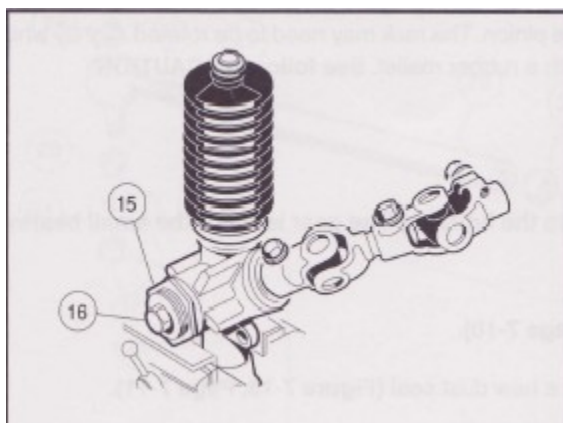

Figure 7-14 Rack and Pinion Adjustment
Tighten the lock nut to 28 ft-lb (38 Nm) (Figure 7-14).
When tightening the lock nut (15), make sure the screw (16) does not change adjustment (Figure 7-14).